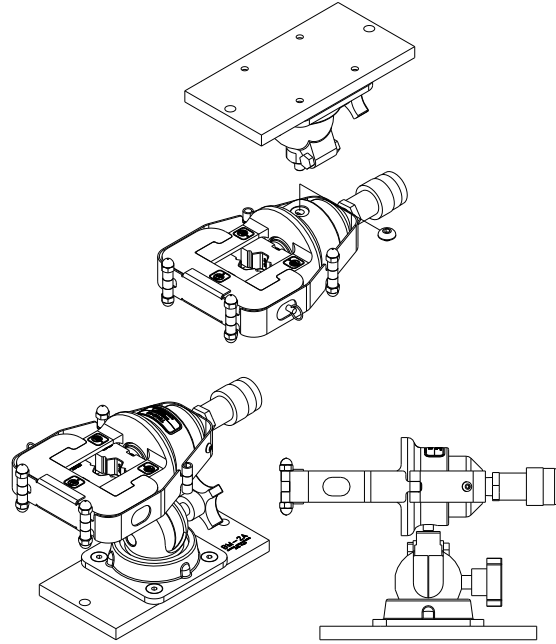

Figure 4
1. Hold the TBHD1M head, either by hand or in a vise, with the cap screw oriented upwards as shown in the top view of Figure 4.
5. The assembled unit can now be turned back over, as shown in the lower views of Figure 4, and mounted to a work surface.